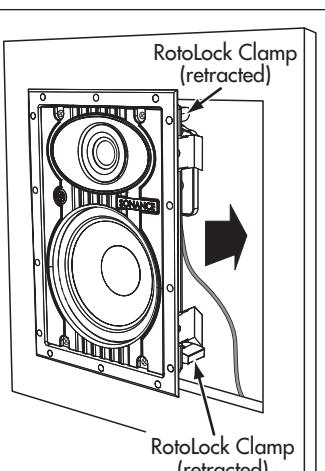

FIGURE 6: INSERTING THE SPEAKER INTO THE MOUNTING HOLE
- Make sure all the RotoLock clamps are retracted so that they are tucked within the mounting hole's border. Insert the speaker into the hole in the wall (*Figure 6*). The RotoLock system can accommodate a maximum wall material thickness of 1 $\frac{1}{4}$ ".